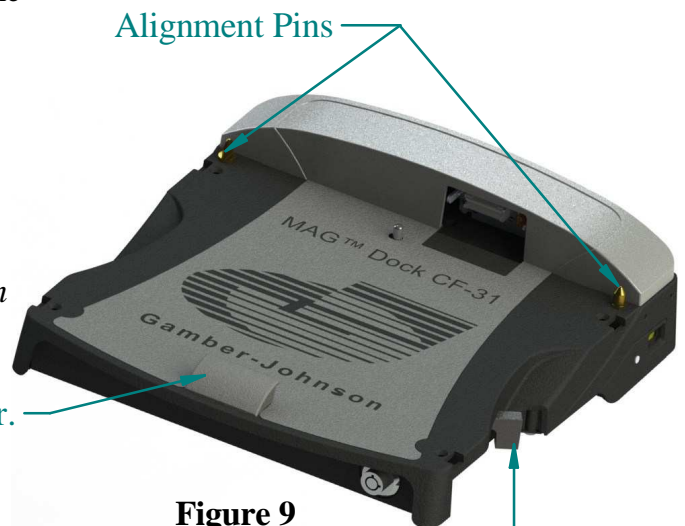

Figure 9
- a. Hook the front of the computer on the front retainer (Figure 9).
- b. Lower the back of the computer onto the Alignment Pins (Figure 9).